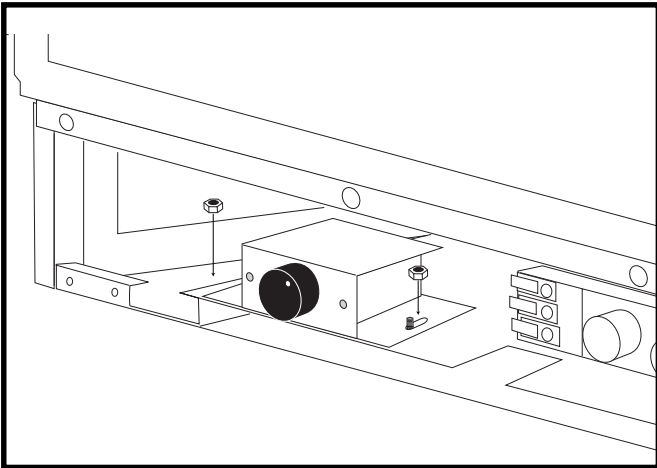

Fig. 33. Remove Fan Control Box.
- a) Remove the Fan Speed Control Box (Fig. 33)
- a) Remove the Fan Speed Control Box (Fig. 33).